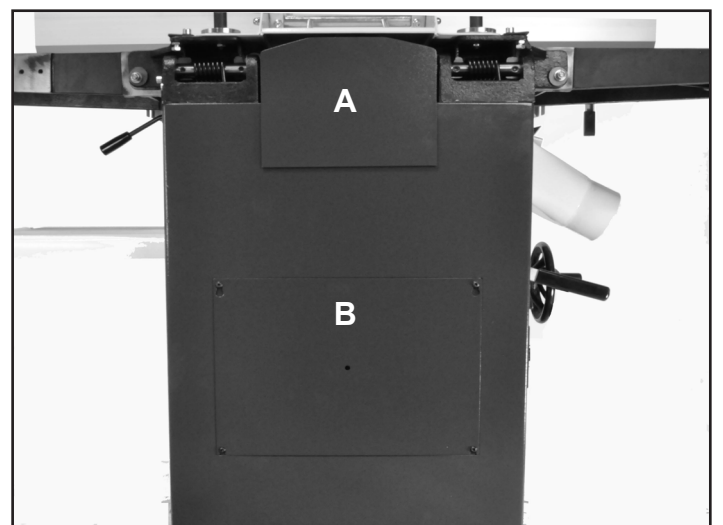

FIG. 29
and are breaking in. Both drive belts are located behind the machine's rear cover and side panel. FIG. 29, A & B.
2. Remove the fence assembly, the Rear Guard (#91) and the cabinet's rear Belt Cover Plate (#40) to expose the motor, pulleys and belts. FIG. 29.